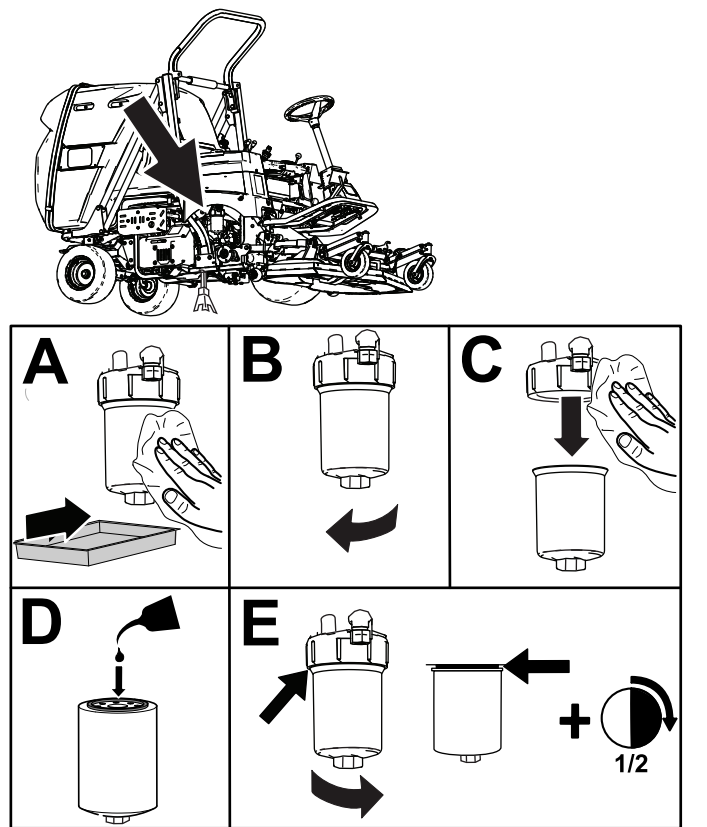

Figure 85
7. Replace the hydraulic filter as shown in Figure 85.